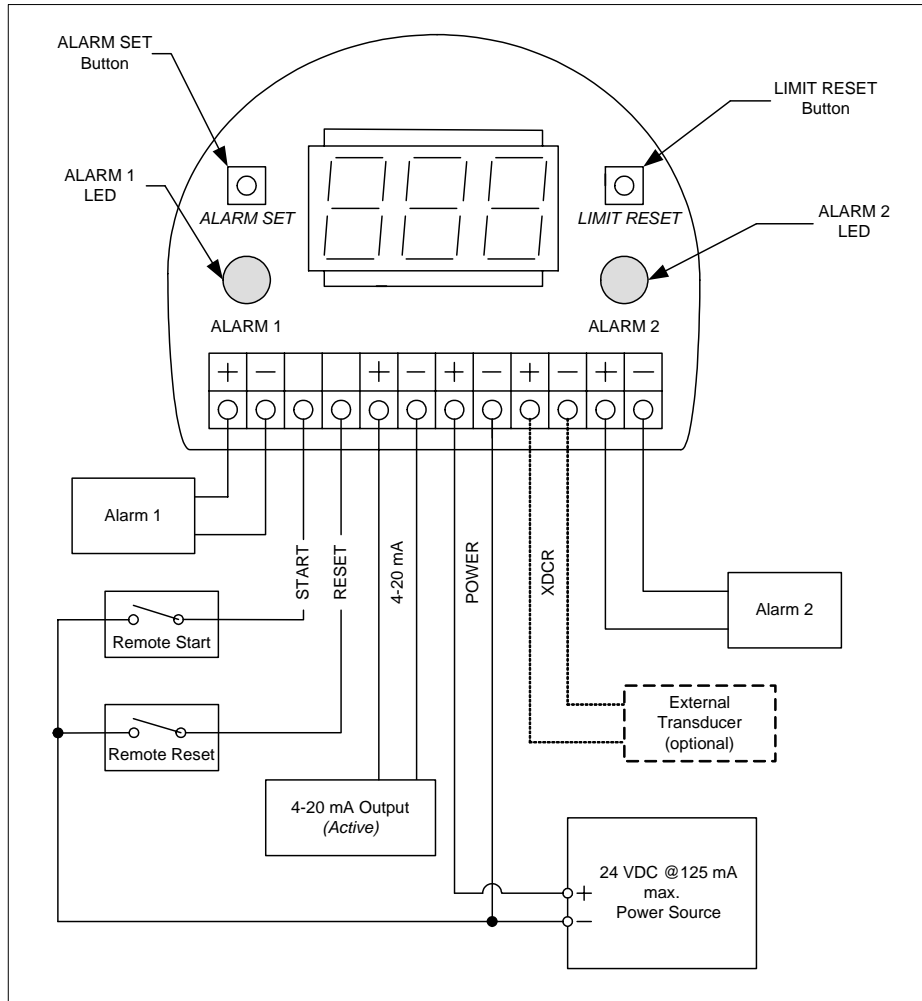

Figure 3-1 Wiring Diagram
Programming Procedures Reference Figure 3-1
- 7) Answer:** Verify remote start-up delay is not engaged. (Ref. figure 3-1) Allow 30 seconds after power-up or disengage of remote start-up delay. Check alarm / relay wiring.